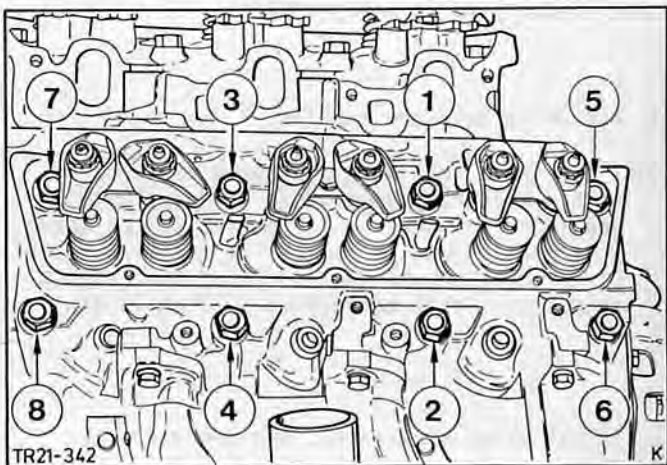

Fig.80. Tightening sequence - cylinder head bolts.
16. Detach cylinder head, undoing cylinder head bolts in the reverse order so that used when tightening (see tightening sequence, Fig.80).
18. Fit cylinder head in place, insert bolts (having lightly oiled underside of bolt head and thread) and tighten to the specified torque in three stages (see Technical Data) in the order shown in Fig.80.
38. Retighten cylinder head and inlet manifold bolts to specified torque as indicated in Figs.80 and 82 (using Special Tool 21-066).